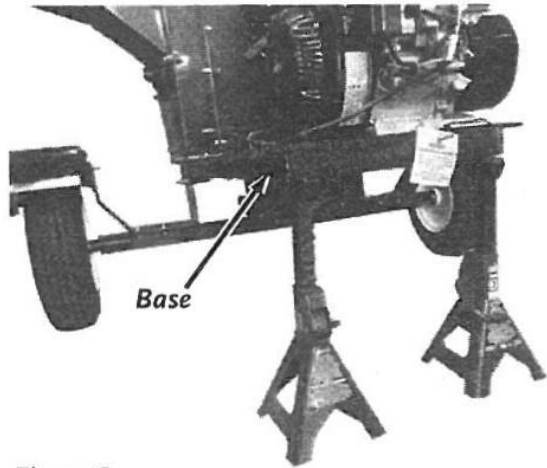

Figure 2
- Place the base on Jack Stands so that the frame is level with the ground (Figure 2).